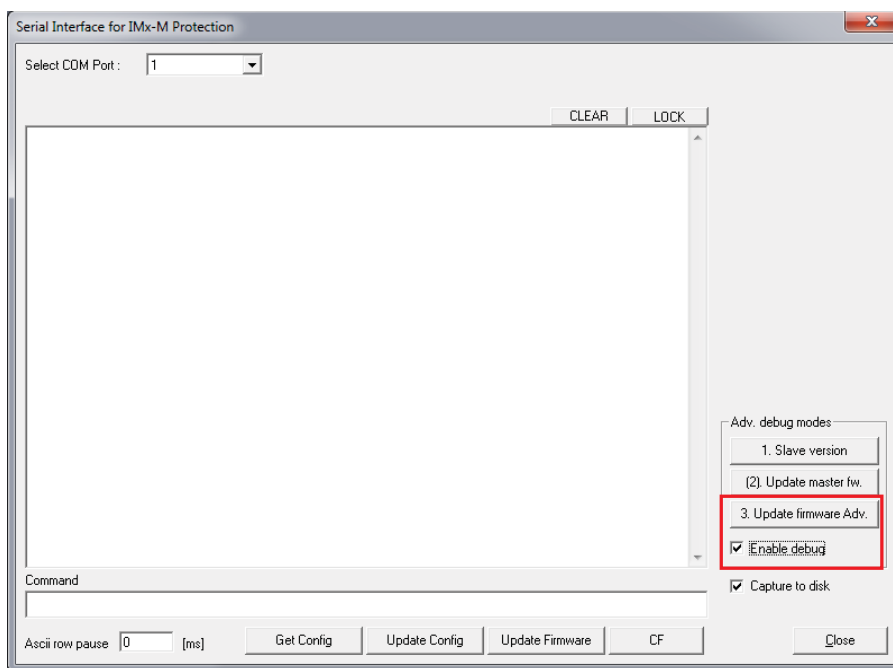

Fig. 11. Update firmware advanced when upgrading to firmware 214.
- 9 Advanced upgrade procedure must be used when upgrading the protection firmware to version 214. For this, go back to the IMx-M Serial Interface (as in step 1.), select the **Enable debug** option and then click **Update firmware Adv.** (→ **fig. 11**).